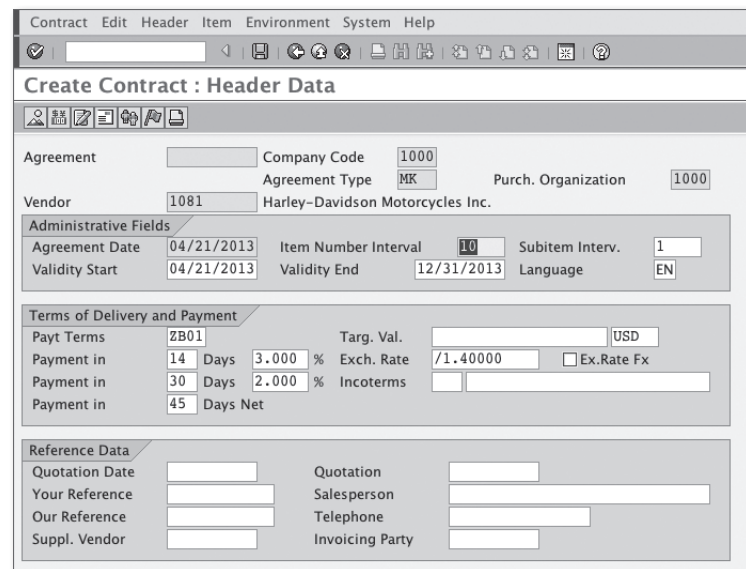

**Figure 4.7** Selecting the Contract Type
You can create a contract either manually by typing all of the required data or by referencing other purchasing documents such as purchase requisitions, or RFQ/quotations. If you want to use a reference document, either click the REFERENCE TO PREQ button for a purchase requisition, or click the REFERENCE TO RFQ button for an RFQ (see Figure 4.7).
1. In the first screen of Transaction ME31K, select a vendor number, agreement type, purchase organization, and purchasing group at a minimum (see Figure 4.7). Press **Enter** to proceed to the header screen.